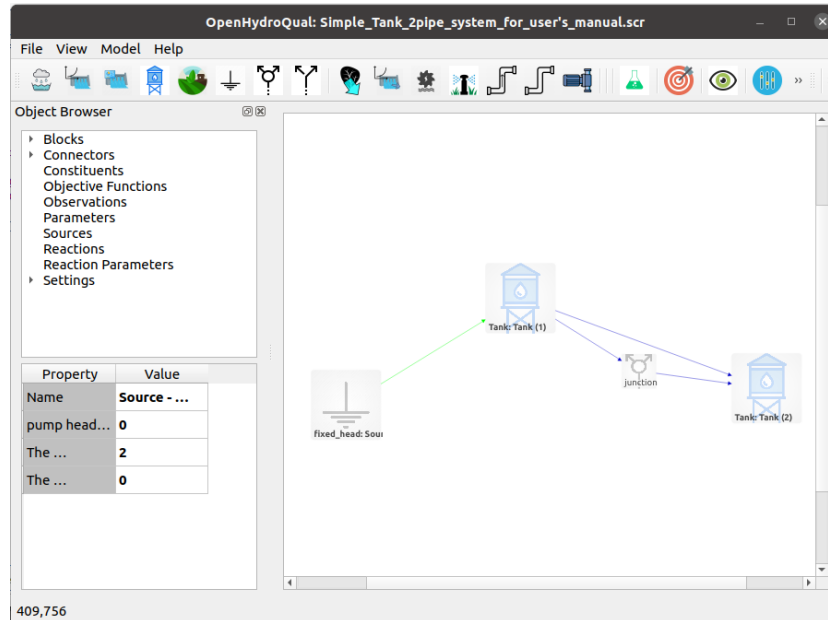

Figure 7: GUI screenshot for the pipe network and pump model
2. **Connect the source to Tank(1) through a pump:** A pump is considered a connector in the default *pump-pond-tank* plugin. Click on the pump button  and then drag from the newly added source block to Tank (1). Your GUI should look like figure 7.